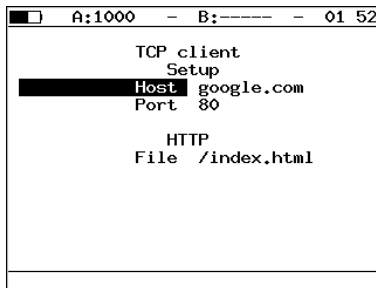

Figure 5.66. TCP-client setup
1. Enter the file name in *File* field (see fig. 5.66).